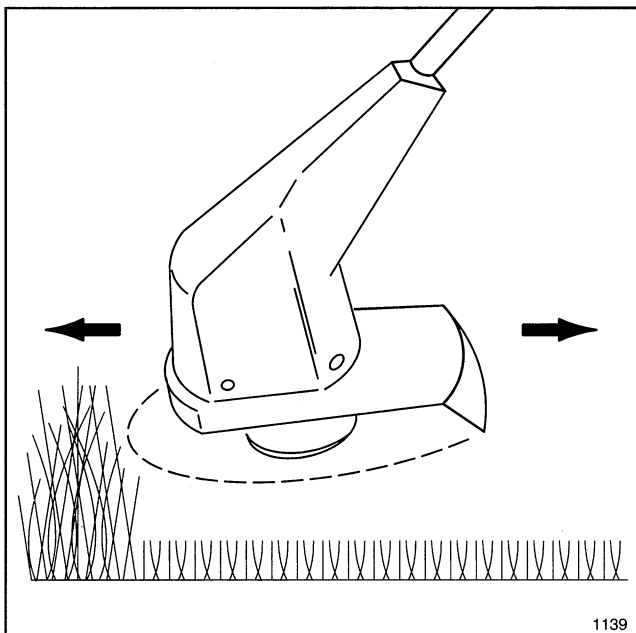

Figure 6
4. Slowly move unit in and out of area being cut, maintaining unit at desired cutting height. This can be either a forward-backward or side-to-side motion as indicated in Figures 6 & 7.